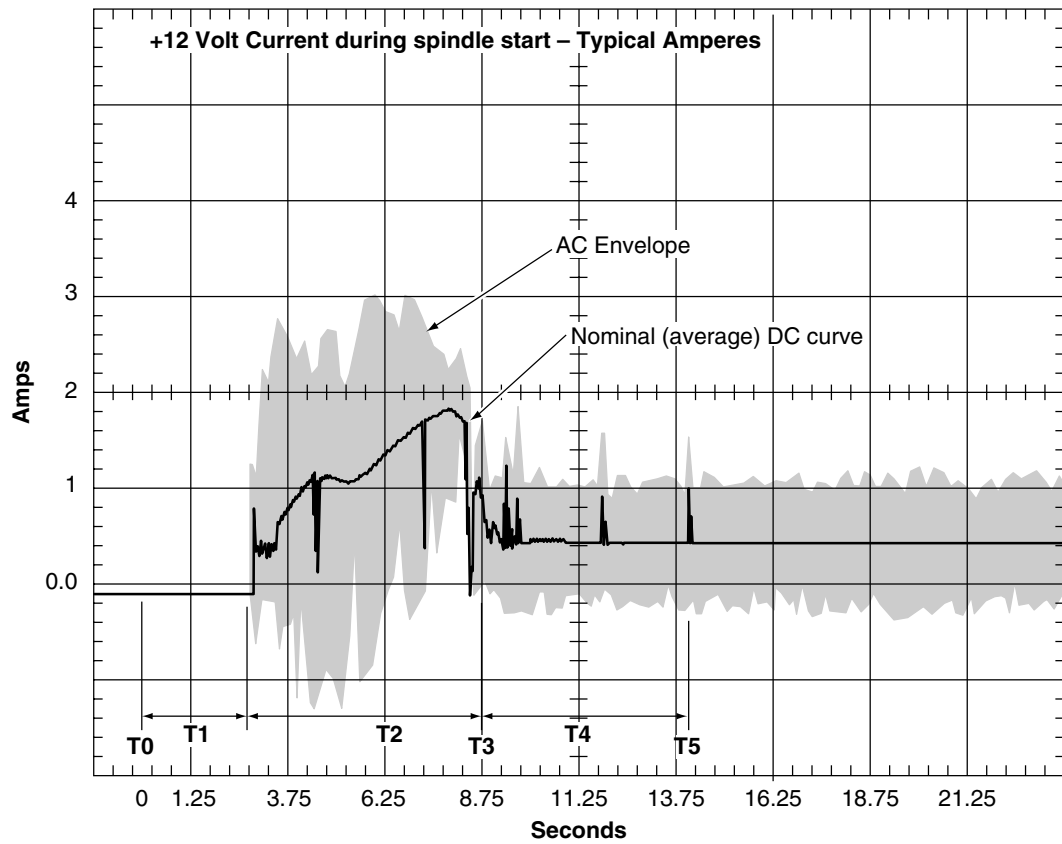

Figure 3. Typical ST336706 drive +12 V current profile
- [3] See +12 V current profile in Figure 3.
Figure 3 identifies the drive +12 V current profile. The current during the various times is as shown: